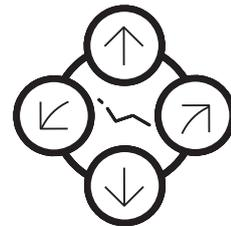

Fig.3-8 Chair Manual Control Switch
⑤ Chair Manual Control Switches (Fig.3-8) **A** **E**